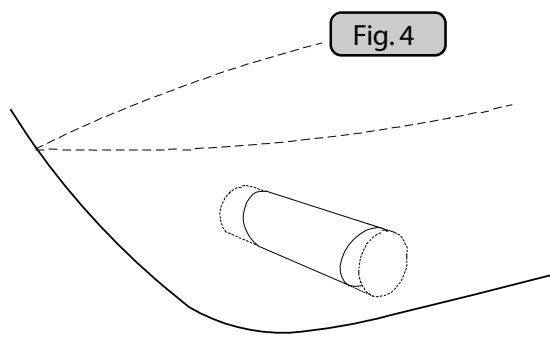

Fig. 4
The thruster propeller can spin (passively) producing noise while sailing or cruising as water is forced through the tunnel. Waterflow directed through the tunnel at high speeds, during turning or as the boat bumps waves while underway can also damage the thruster (**Fig. 4**).
4. Insert the tunnel and mark its shape to fit the hull (**Fig. 4**). **(NB: if you are installing with a deflector/ spoiler, leave a part of the tunnel in the front and underside of the tunnel that will cover the back face.)**